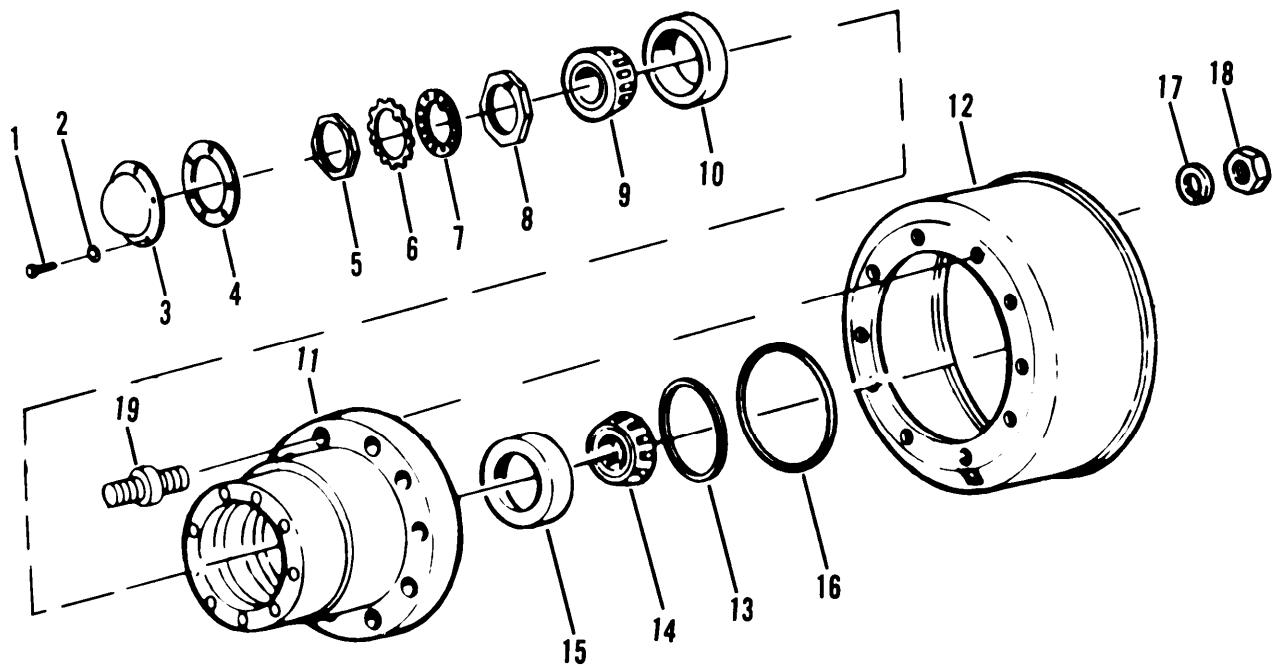

Figure 4-43. Brake Drum and Hub
Be certain which model semitrailer you are working on. Callout 6, on figure 4-43 is on the M871 semitrailer only. Callout 16 is on the M871A1 semitrailer only.
(1) Remove six screws (1, fig. 4-43), six washers (2), hub cap (3) and gasket (4). Discard gasket (4).
- (1) Install ten studs (19, fig. 4-43) with short side from shoulder facing in the hub (11).
- (2) Install hub (11) on brake drum (12).
- (1) Install inner nut (8, fig. 4-43) with locking guide pin out and torque to 75 lb ft (103 Nm) while rotating hub and drum assembly. Back off one turn and repeat 75 lb ft (103 Nm) torque. Back off 1/4 turn.